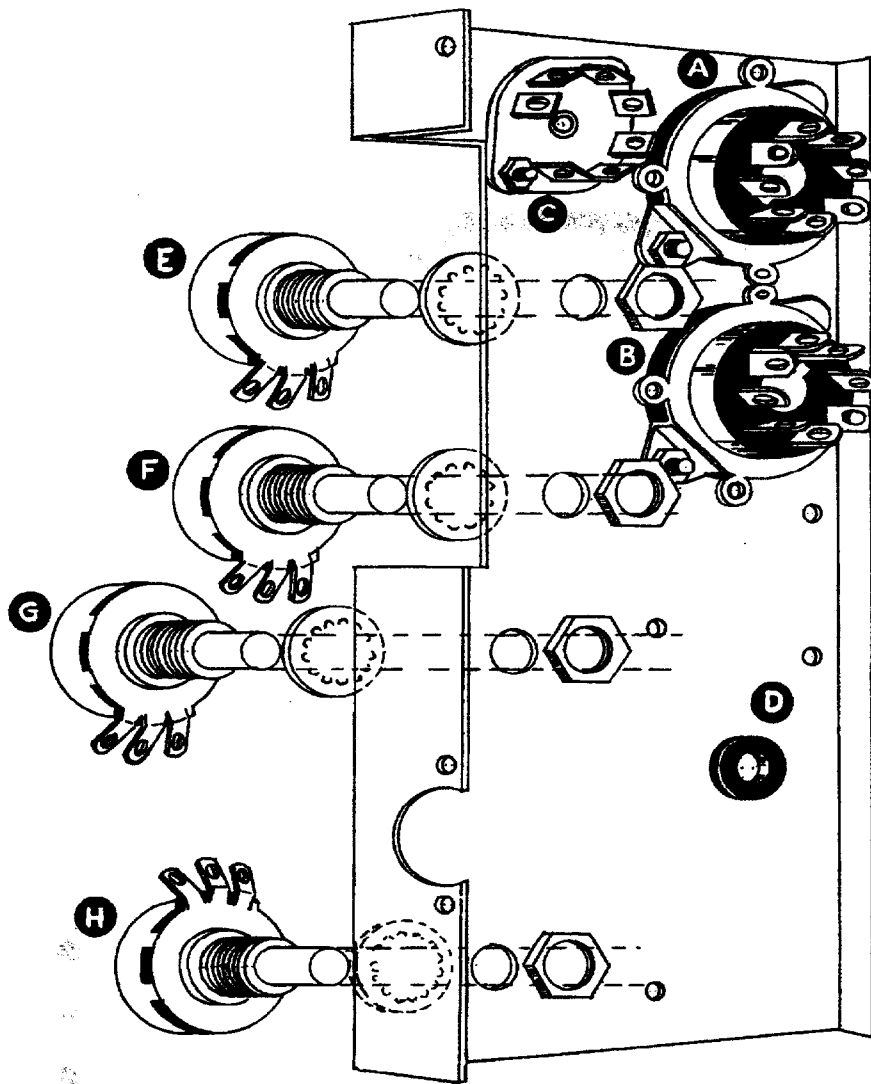

Figure 1. Chassis showing mounting of parts.
- () Mount an octal socket in location A. Use 6-32 screws, lockwashers and nuts. It may be necessary to bend the ground lug on the socket near the edge of the chassis. Refer to Figure 1.